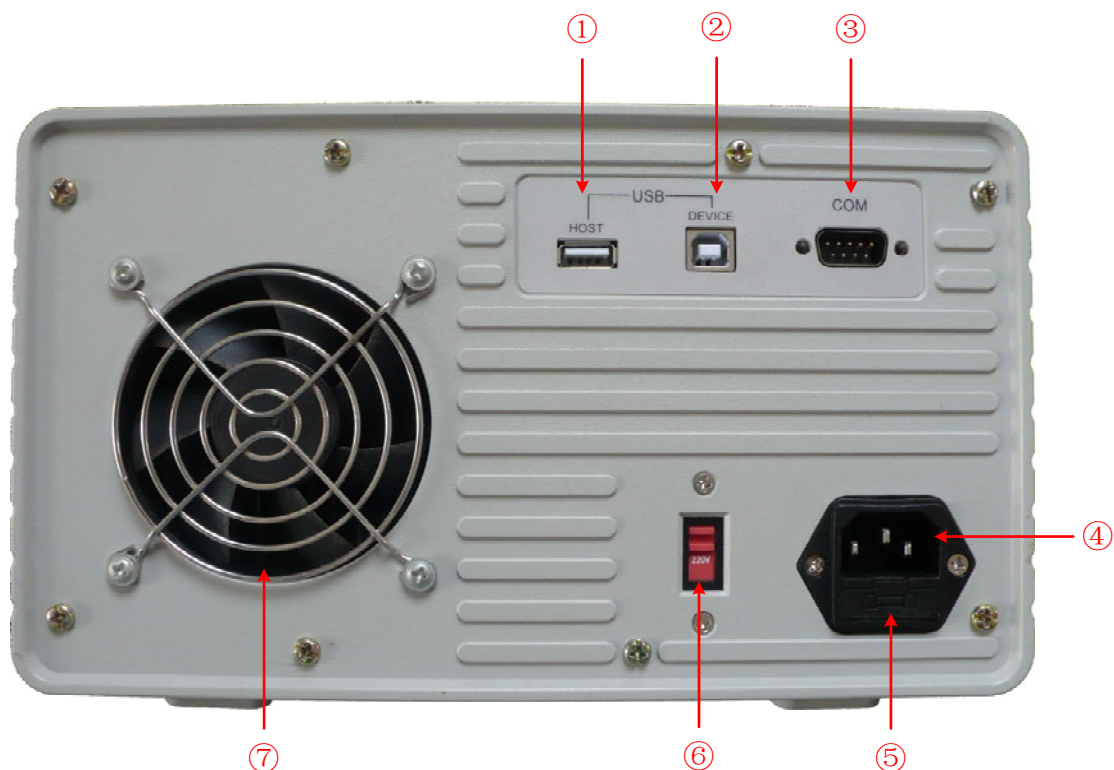

Figure 4-2 Rear panel overview
ODP Series adopt 110V/220V AC power source. Users should regulate the voltage scale of the **Power Switch** according to the standards in their own country (see *Figure 4-2*) at the rear panel and use an appropriate fuse.
- (1) Turn off the power button at the front panel and remove the power cord.
- (2) Check if the fuse installed before leaving factory (250 V, F3 A) can match with the selected voltage scale; if not, pry the cover open using a straight screwdriver (see ⑤ in *Figure 4-2*), change the fuse.
- (3) Regulate the **Power Switch** to the right voltage scale.